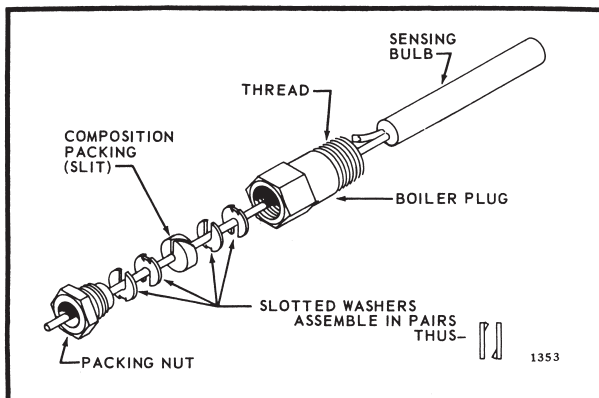

FIG. 7—PRESSURE FITTING ASSEMBLY.
4. Place composition disc and the four slotted brass washers on tubing in the order shown in Fig. 7.